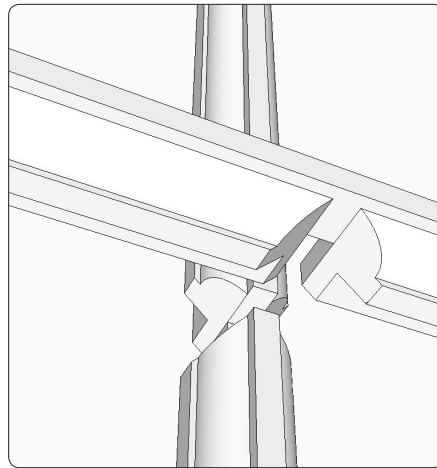

Figure 71. Crossing muntins, mitered on the ends and connected with a half-lap joint.
Step 10 Make another muntin and repeat the procedures in Step 9 to miter it and make the half-lap joint. This time, however, push in the back face of the muntin to make the mating half of the lap joint (Figure 71).